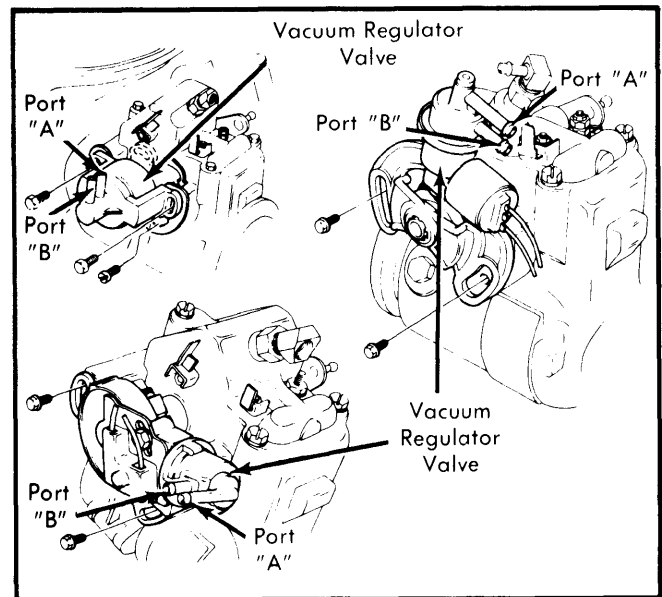

Fig. 21 Vacuum Regulator Valve Port Locations
3) Set angle gauge to 58°, then rotate throttle lever until bubble is centered. Attach vacuum pump to port "A" of vacuum regulator valve and vacuum pump to port "B". See Fig. 21.